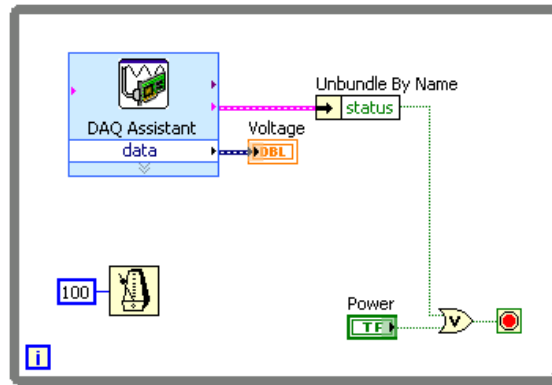

Figure 10.9
1. Build the block diagram shown in Figure 10.9.